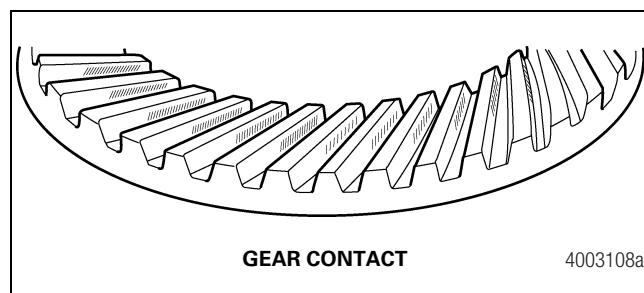

Figure 4.27
2. To obtain a tooth contact pattern, rotate the ring gear forward and backward until the 12 marked gear teeth go past the drive pinion six times. Repeat this procedure, if necessary, to get a clearer pattern. The following illustration shows a good gear contact pattern. Figure 4.27.